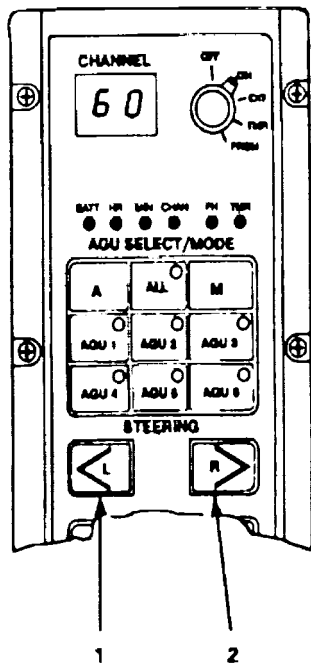

Figure 2-5. T/C Steering Switches
c. Steering Switches. (See Figure 2-5.)
(1) L (Left) STEERING Switch. Commands a left turn. When switch released, the servos return to neutral. The left steering commands are only accepted by AGUs which have been commanded to the manual mode and have been identified by a flashing red light of their respective AGU ID switches.
(2) R(Right) STEERING Switch. Commands a right turn. When switch released, the servos return to neutral. The right steering commands are only accepted by AGUs which have been commanded to the manual mode and have been identified by a flashing red light of their respective AGU ID switches.